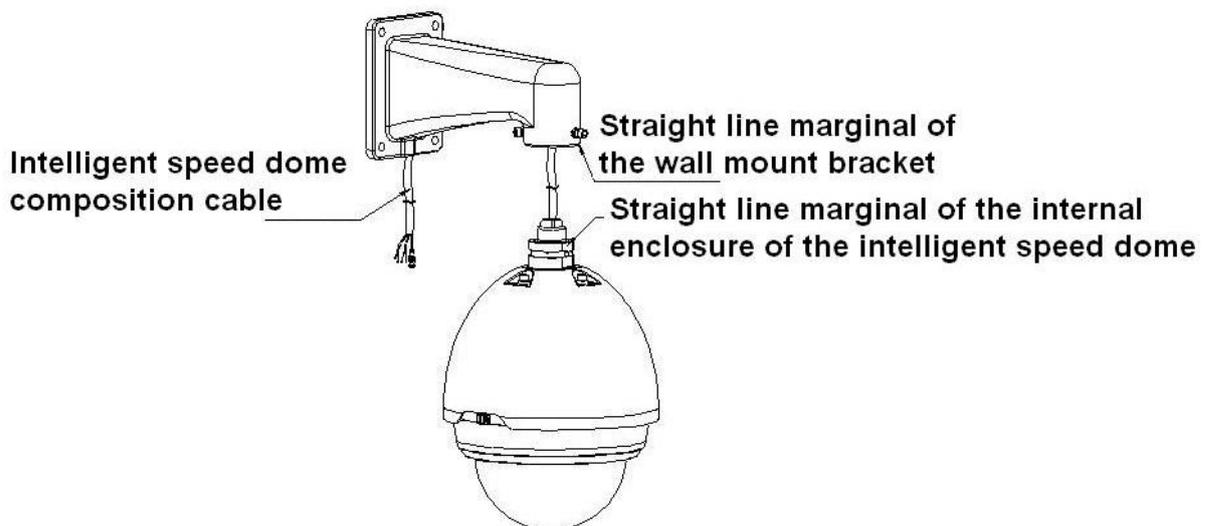

Figure 1-12
1. Pull the composition cable of the intelligent speed through the other end of the wall mount bracket via the end of column of the wall mount bracket. See Figure 1-12.
2. Line up the straight line marginal of the wall mount bracket to the straight line marginal of the internal enclosure of the intelligent speed dome. Push the intelligent speed dome to the wall mount bracket along the straight line marginal. See Figure 1-12.